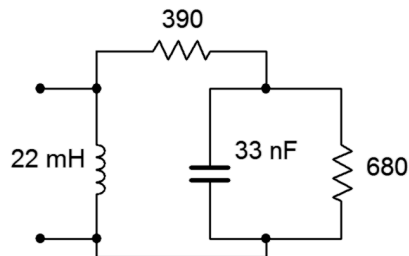

Figure 4.4
4. Determine the impedance of the circuit of Figure 4.4 at frequencies of 1 kHz, 20 kHz and 1 MHz.